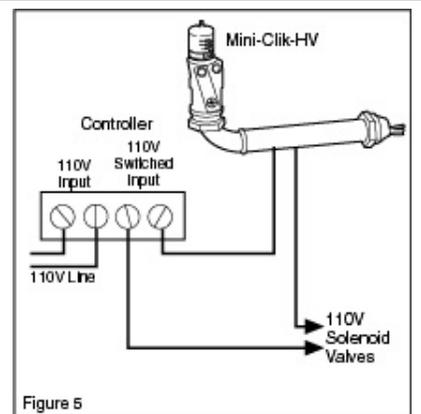

Figure 5
The two taped and stripped wires are the ones to be used when following these accompanying diagrams. The third wire should be terminated with a wire nut. (See Figures 5 and 6)
- [7] http://www.hunterindustries.com/sites/default/files/ts_miniclik_fig5.gif